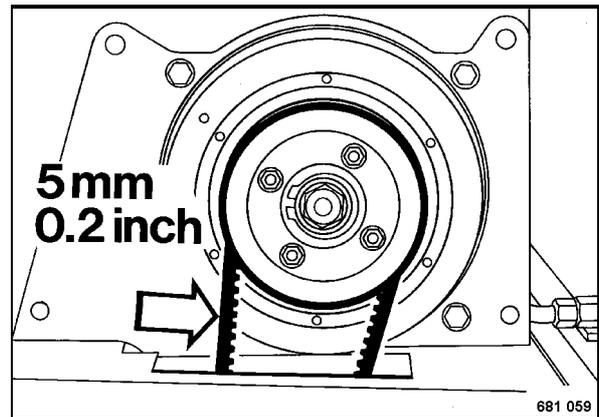

Fig. 64
- Check the condition and tension of the V-belt (Fig. 64), change the V-belt if damaged.